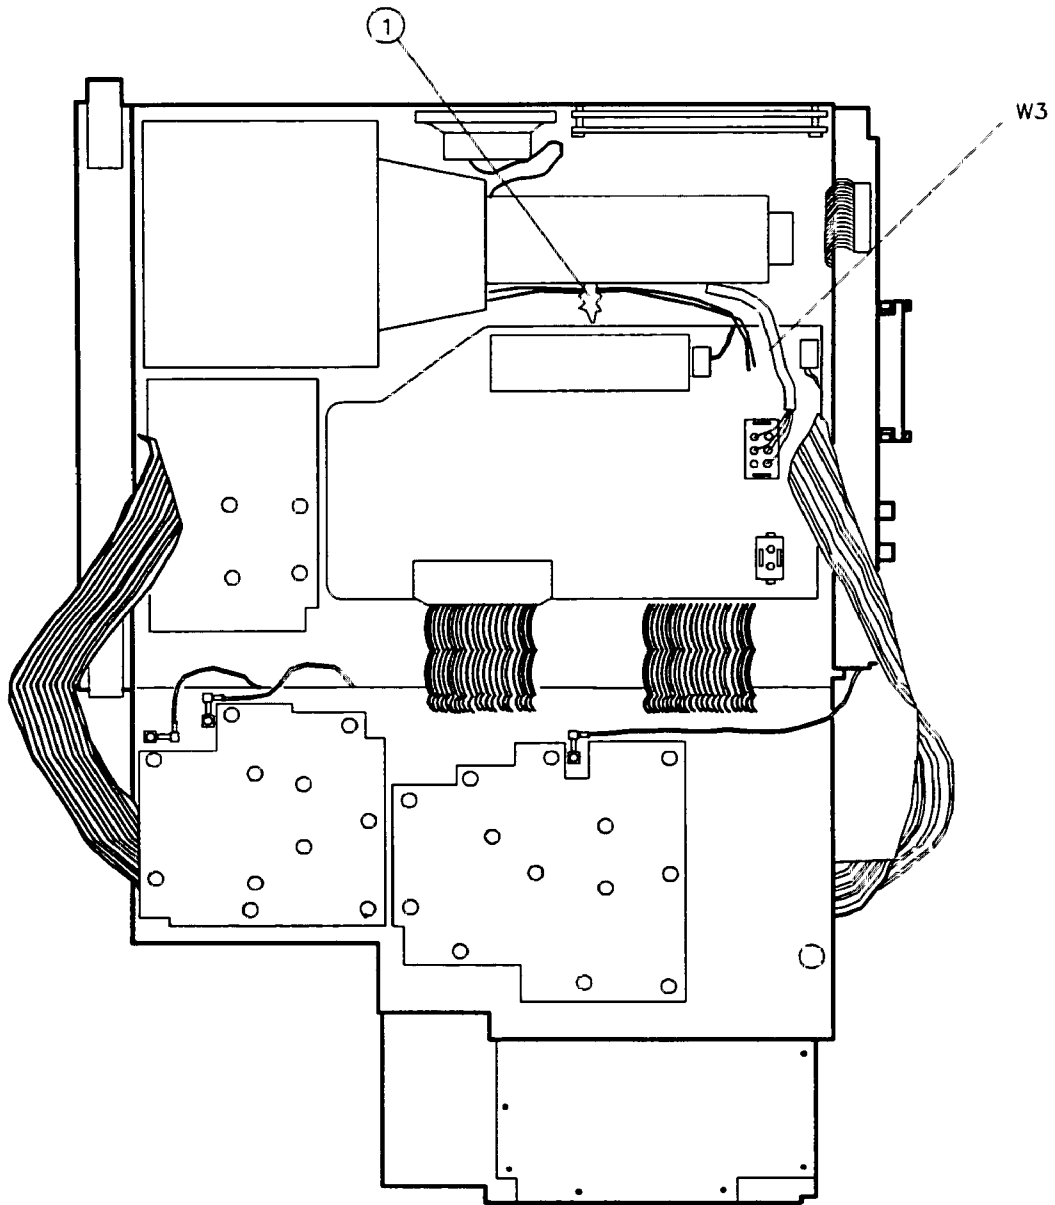

Figure 3-27. W3 Dress and Connection to A6 Power Supply
7. Pull the cable tie (1), Figure 3-27, to free W9 and the post-accelerator cables.
6. Dress W3 between the main deck standoff and the side frame. See Figure 3-27.
3. Dress W3 between the main deck standoff and the side frame. See Figure 3-27.